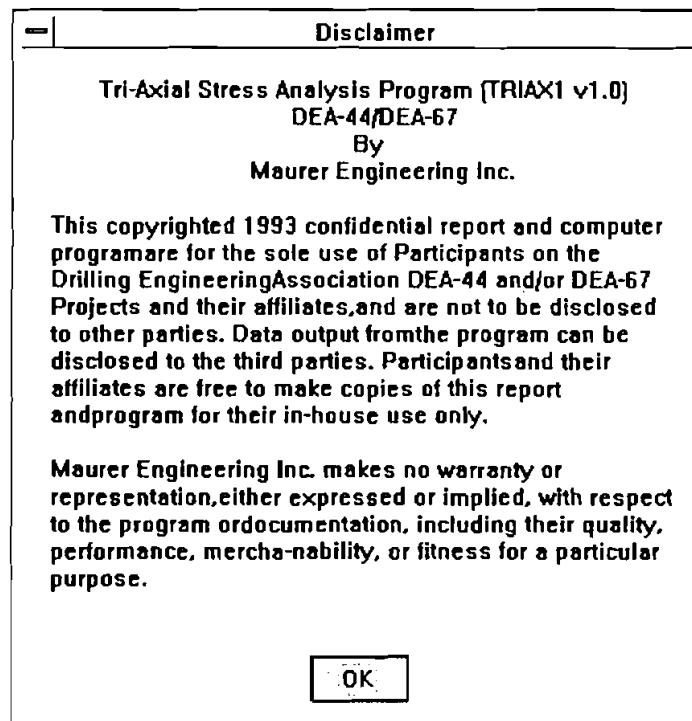

Figure 4-4. Disclaimer Window
3. When the Disclaimer screen (Figure 4-4) appears, click on the [OK] button. This opens the "Tubing Stress Analysis " window (Figure 4-5).